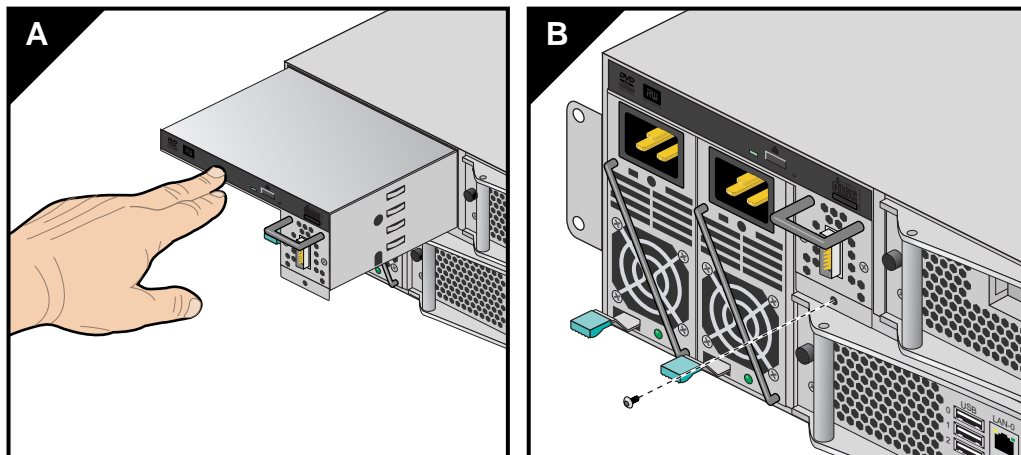

Figure 5-16 Replace the DVD Tray in the Enclosure
18. Carefully slide the drive tray back into the Altix UV 100 enclosure and secure it to the enclosure with the screw removed in step 5. See Figure 5-16 for an example.